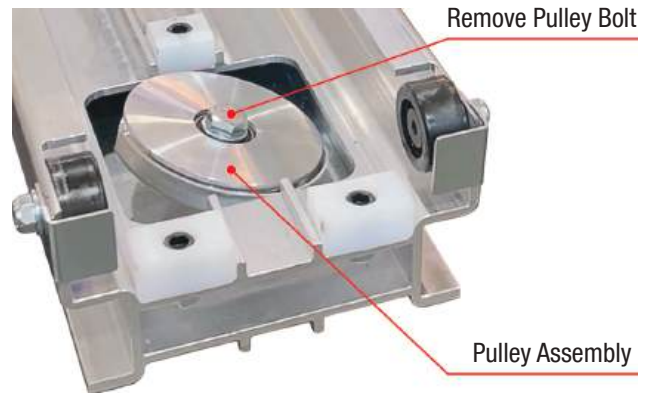

Figure 4-24: Removing Pulley Assemblies
2. Using a 3/4" socket wrench, remove the pulley bolt (see Figure 4-24).